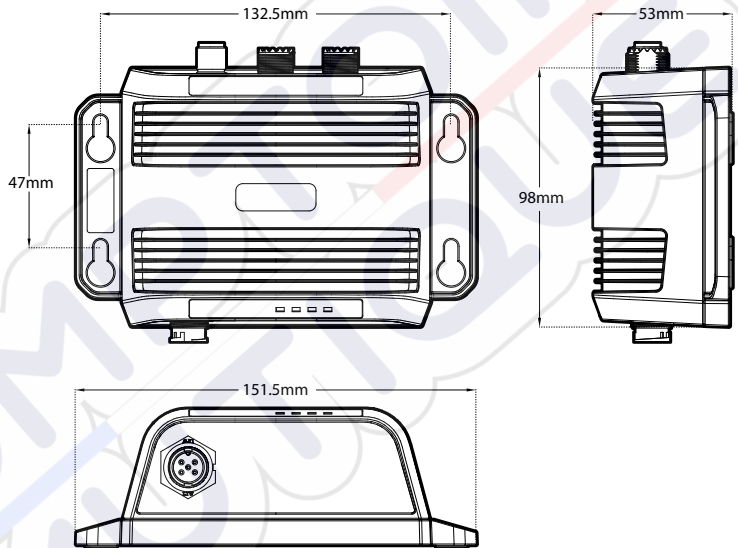

Figure 4 NSPL-500 dimensions
- There should be adequate space around the NSPL-500 for routing of cables. See Figure 4 for details of the NSPL-500 dimensions.